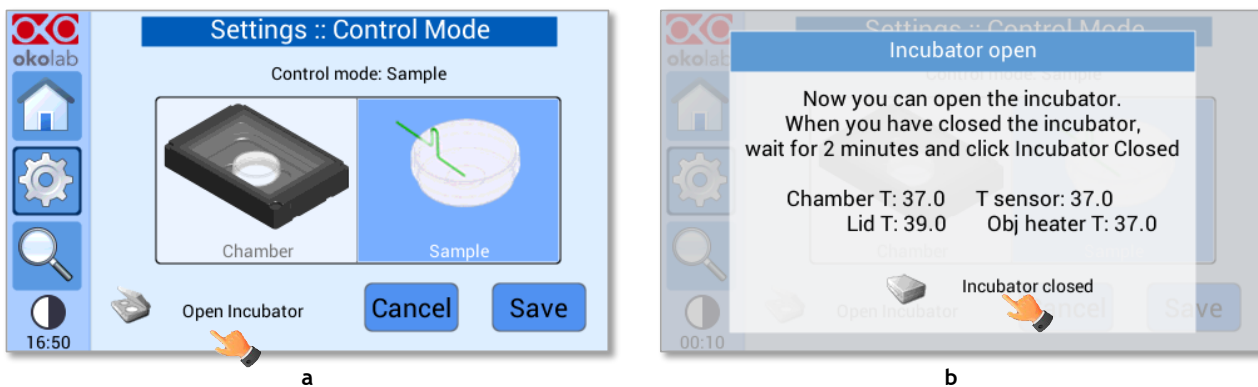

Figure 38. Settings – Control Mode – Sample Control mode – Open Incubator (a – b).
1. Press on  *Open Incubator* icon (see Figure 38 a).
4. Press on  *Incubator Closed* icon and UNO-CONTROLLER recovers normal operation (see Figure 38 a).